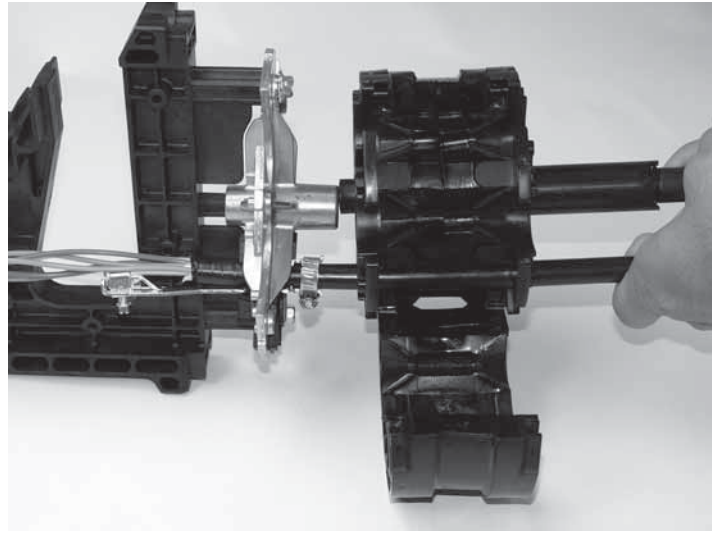

Figure 13
2. Position the gel end piece against the spacer on the metal frame. Position the cables and snap the gel end piece closed. (Figure 13)
1. Turn the "tail" of the gel end piece counterclockwise to loosen the seal between the gel end piece and the base. (See Figure 13)